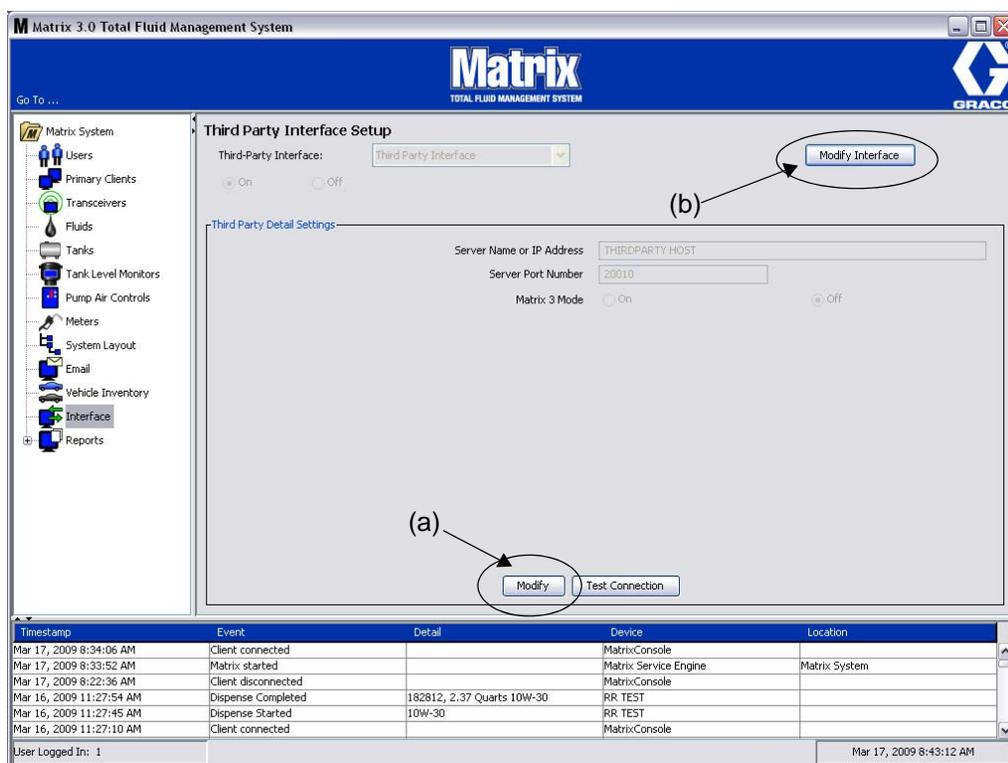
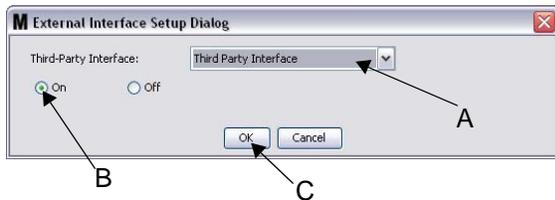

FIG. 175
FIG. 177 External Interface Setup Dialog
1. Click the **Modify** button (a) (FIG. 175, page 129) to display the External Interface Setup Dialog box.
1. Click the **Modify Interface** button (b) (FIG. 175). The External Interface Setup Dialog box shown in FIG. 177 displays. This dialog box is used to specify the Third Party Interface you are using.
2. From the drop down menu (A - FIG. 177) select Third Party Interface.
3. Click **“ON”** (B - FIG. 177). Third Party Interface enables Matrix to use the third party interface.
4. Click the **OK** button (C - FIG. 177) to close the screen and confirm your selection.